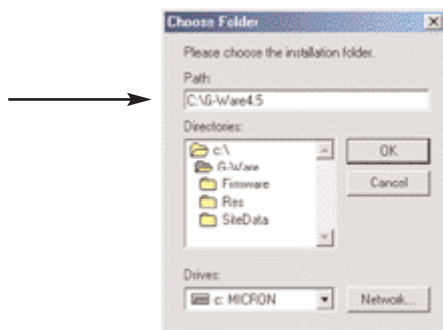

Figure 5.17. Creating a directory for G-Ware 4.5
2. Load G-Ware 4.5 in a unique directory (path), as shown in Figure 5.17. Do not select "Add Icon to Desktop" when you are asked if you want to do so during the installation process.